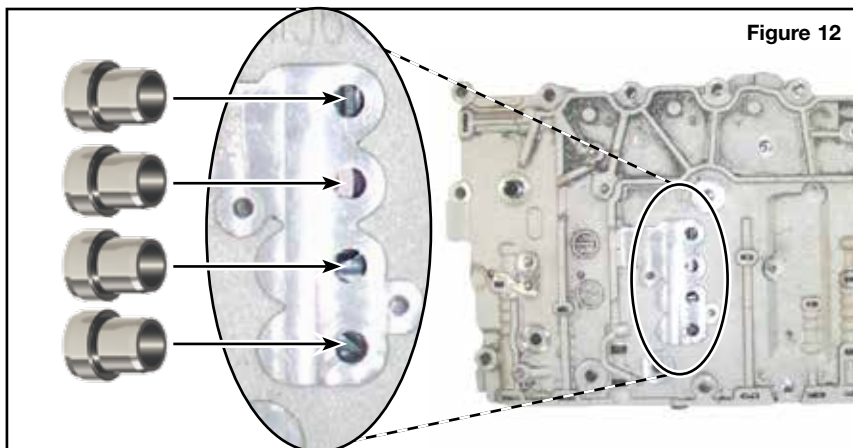

Figure 12
- Install four Sonnax valve body seal inserts (non-grooved, non-threaded) into the back side of valve body. Use appropriately sized flat punch to lightly tap inserts into place. Shoulder on insert will seat flush against the finished valve body surface (Figure 12).